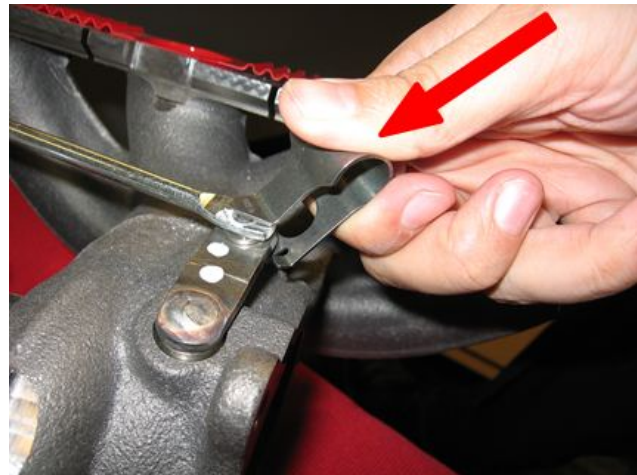

Figure 2. Fit the clip from the side.
3. Install clip **06J145220B** on a new, replacement turbocharger's link plate and actuating rod joint as illustrated (Figures 2 and 3).